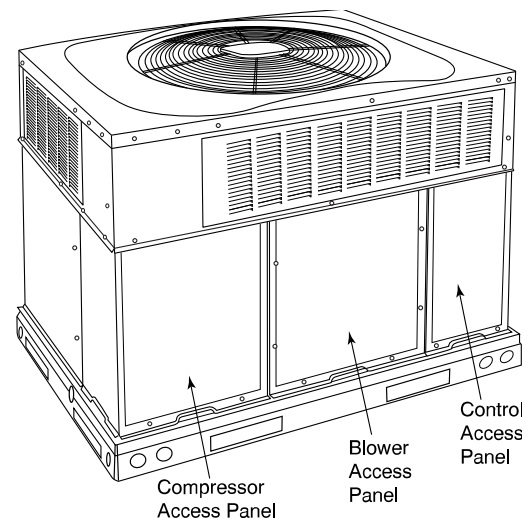

Fig. 39 – Unit Access Panels
With control access panel (see Fig. 39) removed, observe the unit heating operation. Watch the burner flames to see if they are light blue and soft in appearance, and that the flames are approximately the same for each burner. Propane will have blue flame (See Fig. 26). Refer to the Maintenance section for information on burner removal.
An LED (light-emitting diode) indicator is provided on the integrated gas unit controller (IGC) to monitor operation. The IGC is located by removing the control access panel (see Fig. 39). During normal operation, the LED is continuously on (See Table 12 for error codes).
1. Remove control access panel. (see Fig. 39).
Remove blower access panel (see Fig. 39). Limit switch(es) are located on the fan partition.
3. Remove control access panel (See Fig. 39).